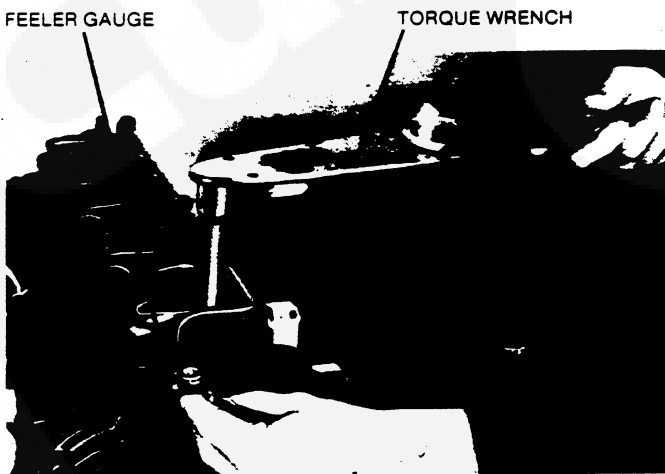

FIGURE 6. VALVE ADJUSTMENT
1. To check valve lash, insert the correct size feeler gauge between rocker arm and valve stem (Figure 6). Press down lightly on push rod end of rocker arm. Make certain rocker arm is properly seated on push rod. If feeler gauge cannot be inserted, loosen rocker arm locknut on top of rocker arm. Tighten rocker arm nut until feeler gauge can be inserted and withdrawn with a slight drag.